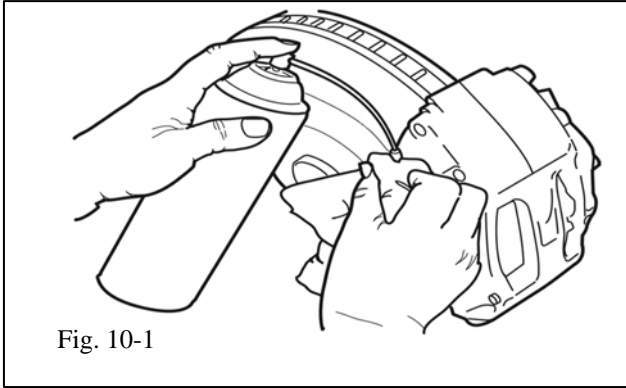

Fig. 10-1
-  (a) Remove any traces of brake fluid which may remain in the bleed screw nipples by spraying brake cleaner directly into each one while holding a soft cloth wrapped around the nipple. Use a soft cloth to wipe away any excess (Fig. 10-1).